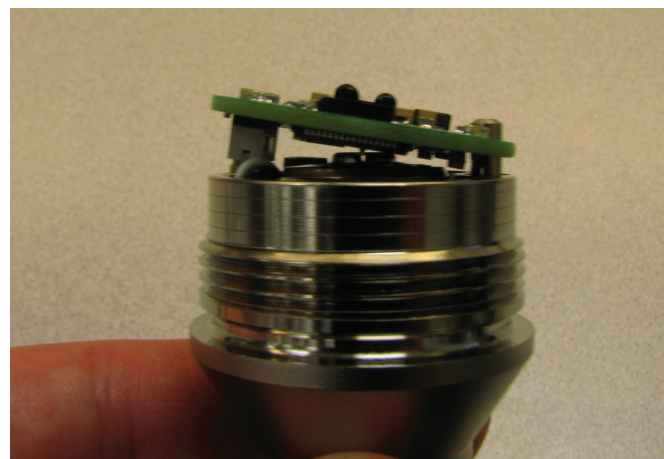

Figure 9: Skewed Circuit Board on Post
7. While pressing down on the board, tilt the side opposite the post up to create temporary tension to keep board in place. See Figure 9. The board should light up and beep when it touches the battery.